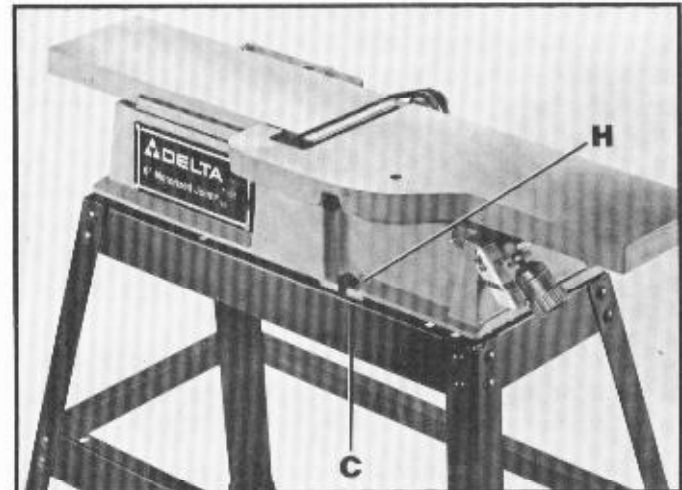

Fig. 5
IMPORTANT: When fastening the jointer to the stand, place a flat washer at each side of the jointer between the base (H) Fig. 5, and the side stand bracket (C), to enable the jointer to sit level on the stand.